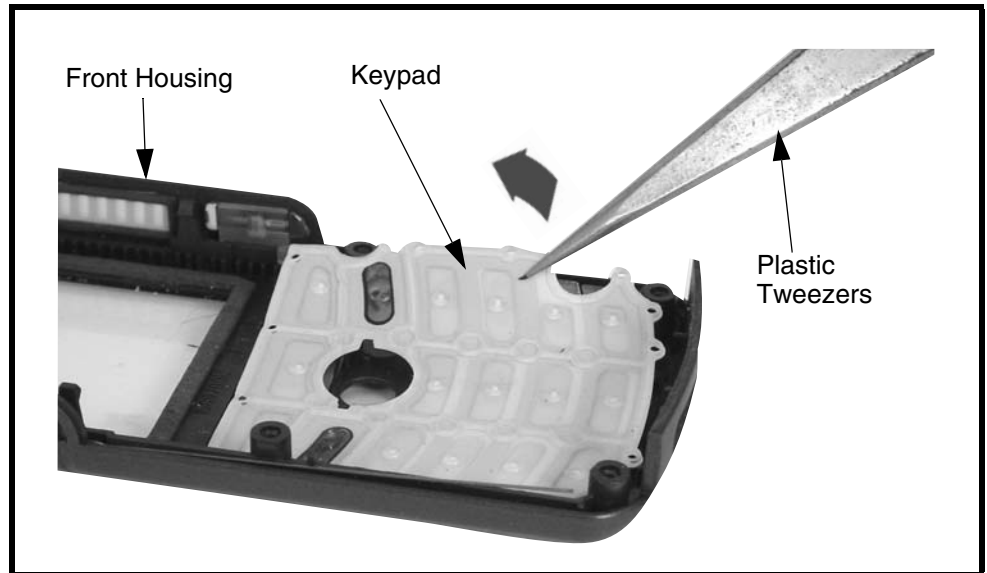

Figure 13. Removing and Replacing the Keypad
2. Lift the keypad up from one corner as shown in Figure 13 and remove it from the front housing.